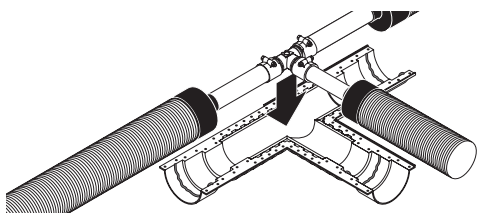

Figure 4-52: Placing the Pipes
8. Place the connected pipes into the insulation shell as shown (**Figure 4-52**).